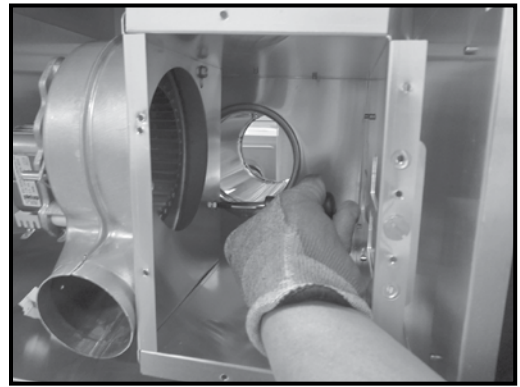

Figure 5.6
5. Remove the three screws holding the blower. See Figure 5.6.